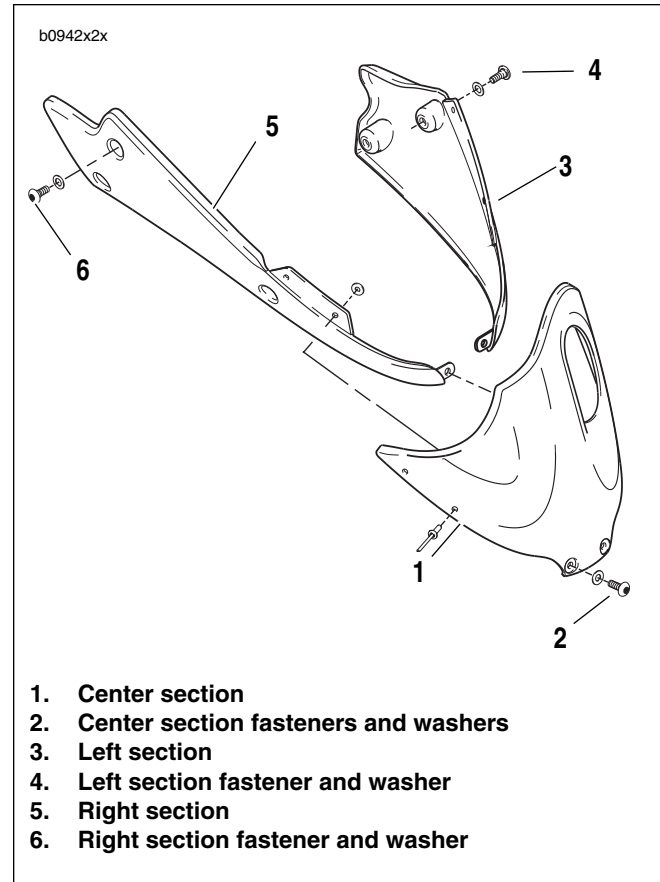

Figure 2-117. Chin Fairing Assembly
3. See Figure 2-117. Remove center section fasteners and washers (2).
4. Remove left section fasteners and washers (4).
5. Remove right section fasteners and washers (6).
1. See Figure 2-117. Position right section (5) and install with right side fasteners and washers (6).
2. Align left section (3) and install with left side fasteners and washers (4).
4. Align center section (1) and install with center section fasteners and washers (2). Use LOCTITE 272 on all fasteners tightening to 36-48 **in-lbs** (4-5 Nm).